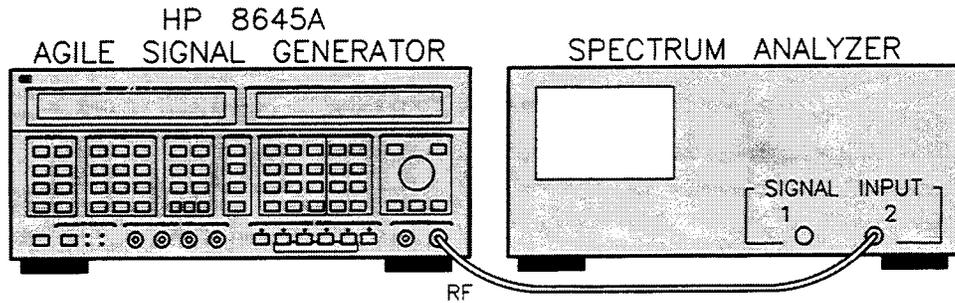

Figure 3-25. Equipment Setup for Internal Single Procedure #1.
1. Connect the HP 8645A to the Spectrum Analyzer as shown in figure 3-25. Turn on the equipment and make the following adjustments to the Spectrum Analyzer: